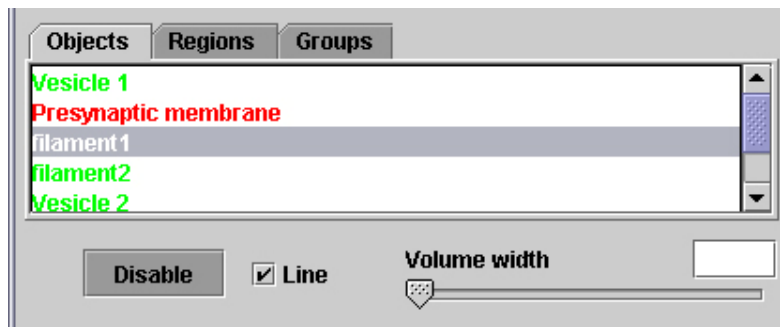

Figure 37: Object List
- The button in Figure 37 that says **Disable** is a toggle button and will change its text to **Enable** depending on whether the first highlighted object is Enabled or Disabled.